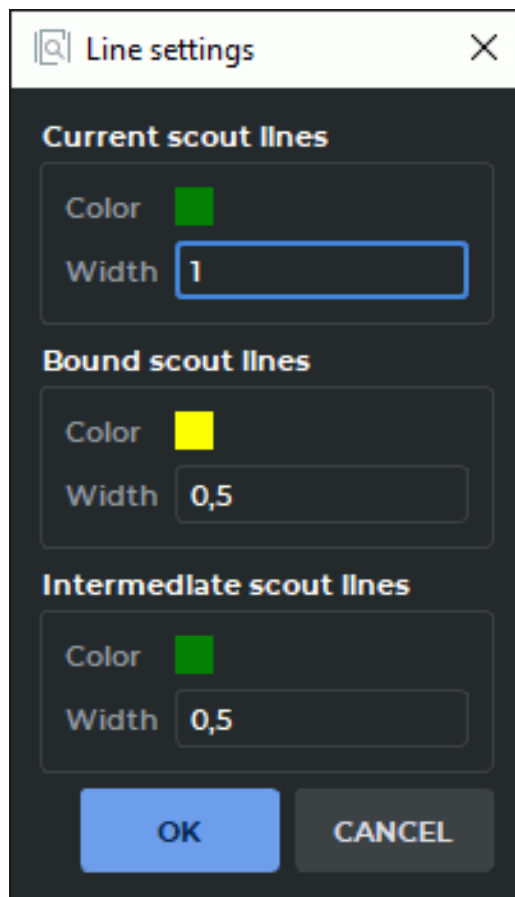

Figure 2.79: Line settings dialog box
5. **Line settings...** opens the dialog to configure the scout lines settings (Fig. 2.79).
1. Click on the arrow on the right side of the  button and select the **Line settings...** item. A dialog box shown in Fig. 2.79 will be displayed.